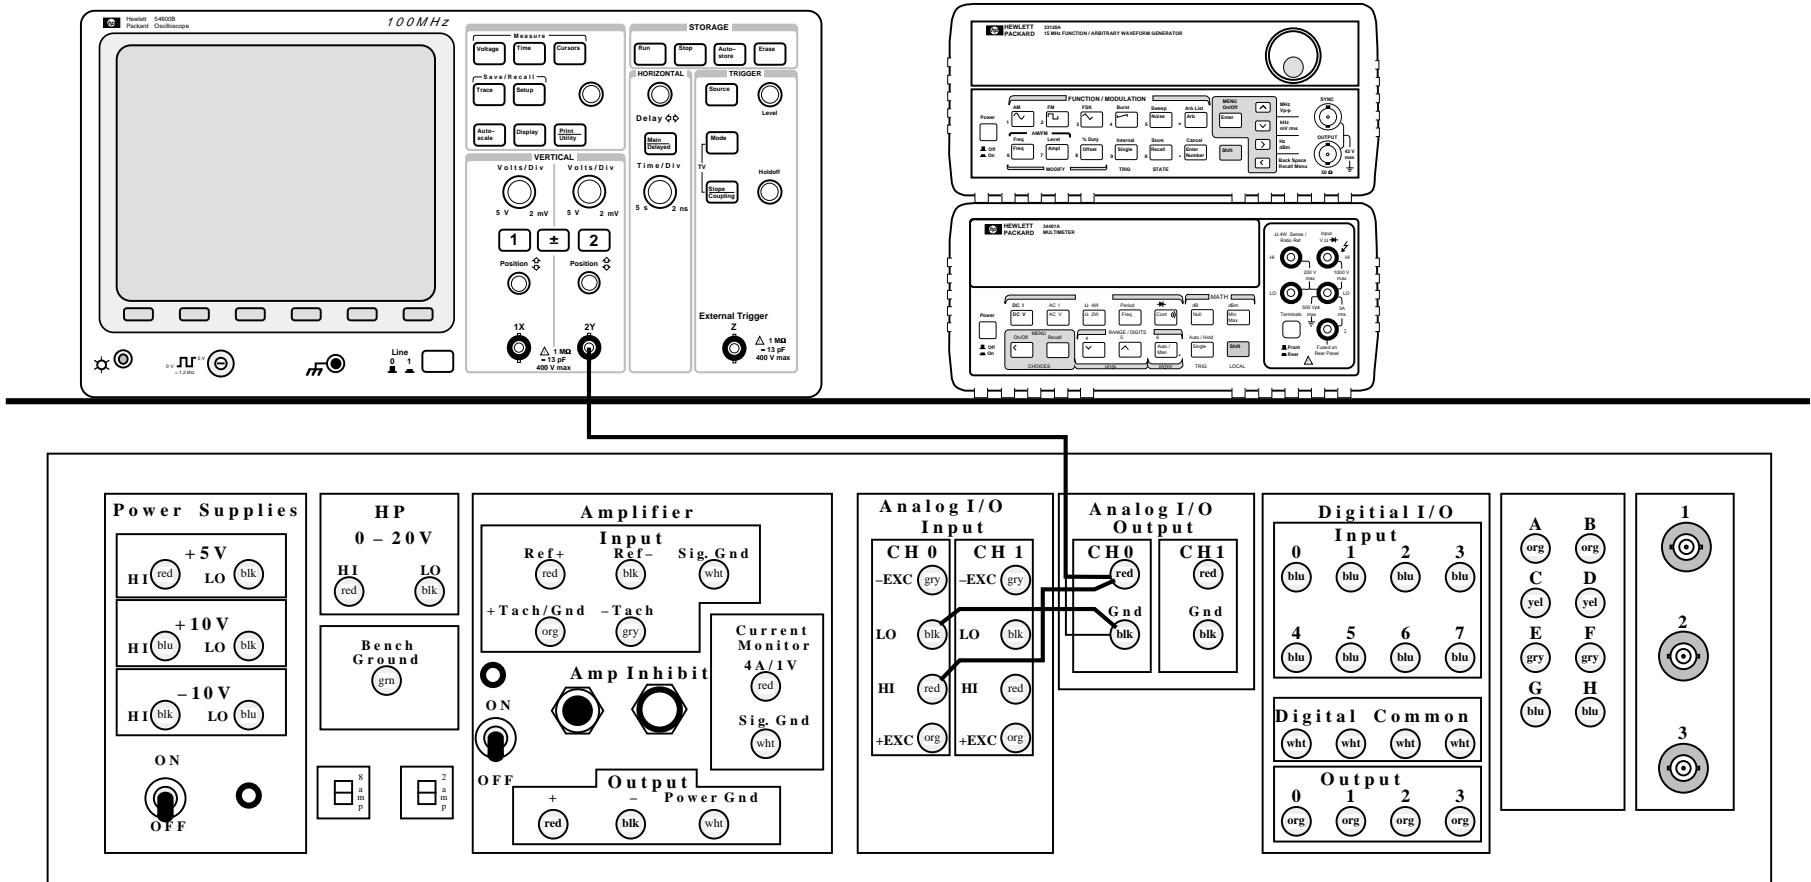

Figure 2. Equipment layout and connections for quantification error experiment.
- (a) Wire the system as shown in Fig. 2. Connect Analog Output Channel 0 to both Analog *Input* Channel 0 and Oscilloscope Channel 2.